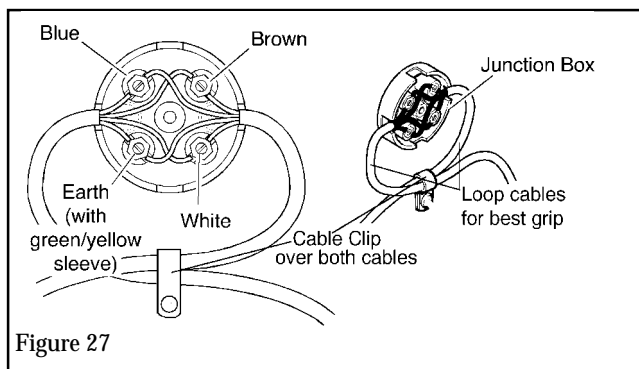

Figure 27
8.12 Select a suitable location for the fan cable junction box. Fit the box and connect the cables as follows (see figure 27):
8.12.7 Connect the leads to the junction box as shown in figure 27.
8.12.8 Fit the cable clip over both cables as shown in figure 27. Place the clip in position against the wall. Mark the wall through the fixing hole.